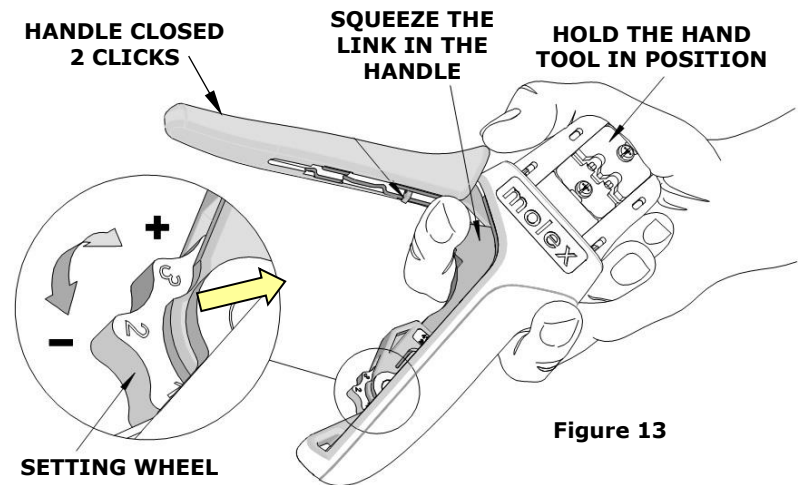

Figure 13
How to Adjust Tool Preload (See Figure 13)
3. Hold the hand tool in the palm of your hand as shown in Figure 13. Using your index finger, squeeze the link toward the top of the hand tool frame. This will release the preload adjustment wheel.
4. Rotate the setting wheel counterclockwise (CCW) to increase handle force. The numbers will display higher. To decrease handle force, rotate the setting wheel clockwise (CW).